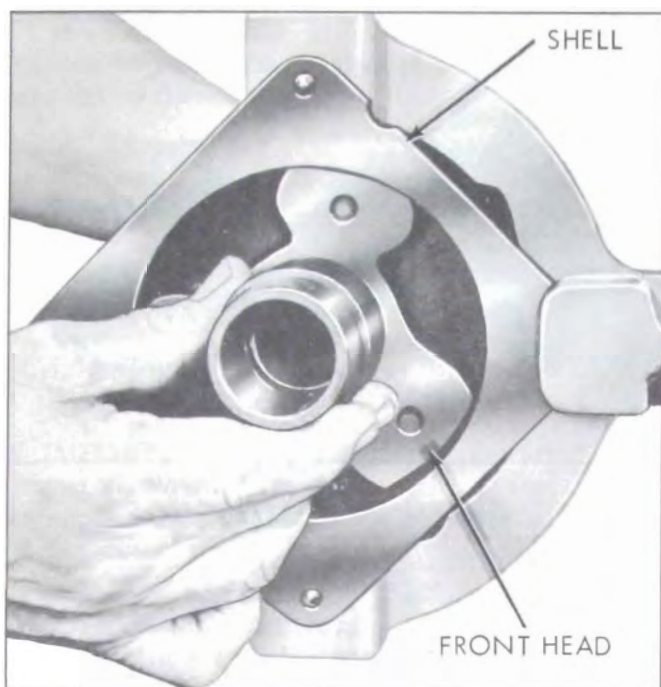

Figure 11-60—Removing Front Head
5. With holding fixture in vise as shown, remove compressor front head, using rubber mallet or wood block to unseat head from shell. See Figure 11-60. Care must be used to protect teflon surface on head from being damaged.